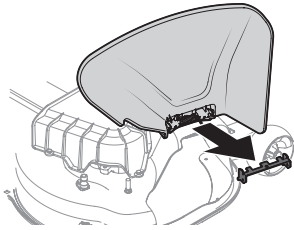

Fig. 10
- Holding the chute deflector fully upward, remove the stop bracket. Lower the chute deflector and discard the stop bracket (Fig. 10).